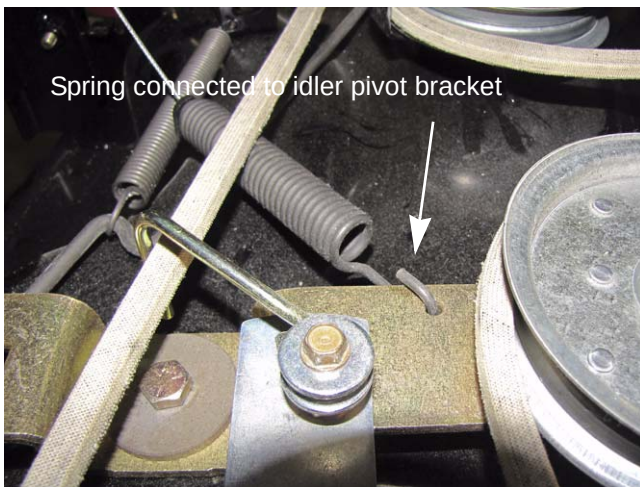

Figure 8.6
6. Unhook the spring end of the PTO cable from the idler pivot bracket. See Figure 8.6.